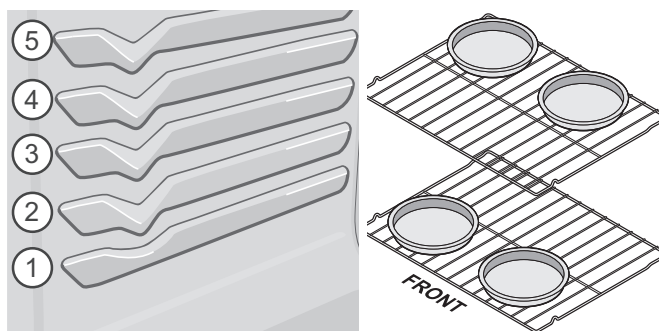

Figure 17: Convection rack positions and pan spacing
- When baking using 2 oven racks, position bakeware as shown in Figure 17. Allow at least 2 inches (5 cm) of space between bakeware for proper air circulation..